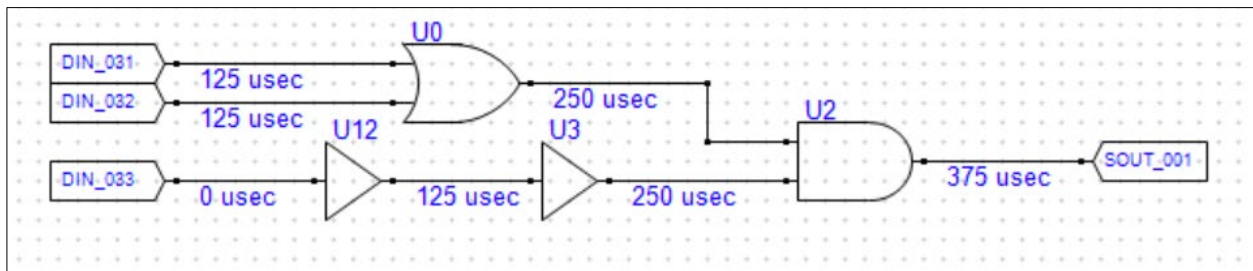

Figure 52 - Balancing Delays by Adding Buffers
One method of matching propagation delays is to insert buffers between blocks. Each buffer adds 125 microseconds, so adding (2) buffers between DIN_033 and U2 adds 250 microseconds in this signal path. Figure 52 - Balancing Delays by Adding Buffers shows the same circuit with buffers inserted to the delay needed. Note that each buffer uses an interlock resource.